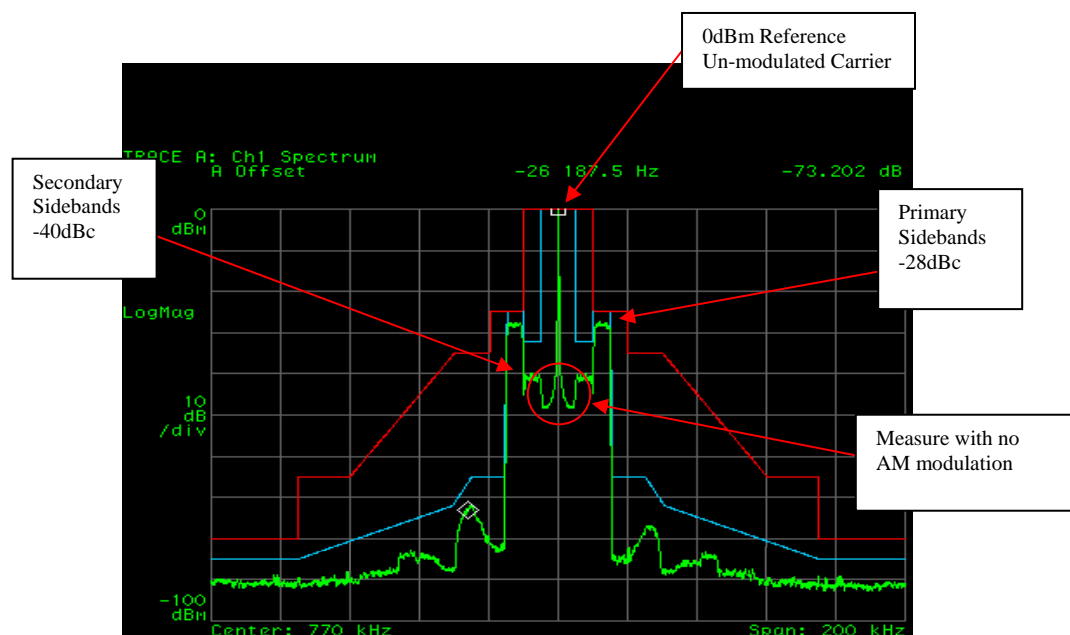

Figure 57 - 0dBm reference (Aligned AM IBOC Transmitter)
While monitoring the Spectrum adjust the **MAG RAISE**, **MAG LOWER**, **MAG/PH DL RAISE**, and **MAG/PH DL LOWER** values in the 4MX until the transmitter's spectrum meets the mask and looks similar to the spectrum in **Figure 57**.
Next, on the ASi turn **Digital Carrier Control** to **ON**, and **Analog Modulation** to **ON**. The transmitter's spectrum should be properly aligned and look similar to the spectrum in **Figure 57**.
Step 3 – Ensure that the transmitter's spectrum is properly aligned and looks similar to **Figure 57**.